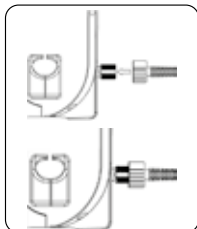

FIGURE 8.2
2. Fix the fitting of the hose to the outlet fitting of the pressure washer (Figure 8.2); Hand tighten the fitting, do not use a wrench to avoid damaging the fitting.